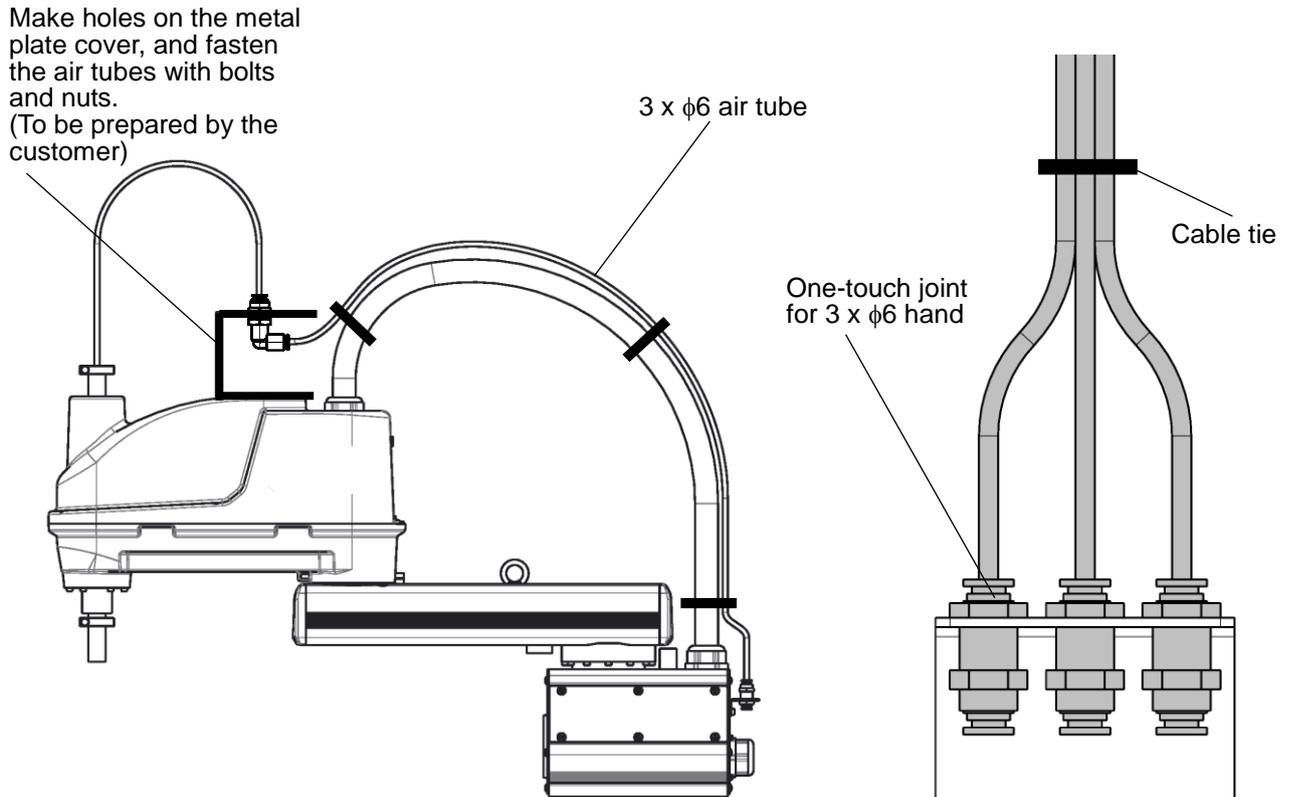

Fig. 10.2 Tool air piping installation example (KHL-500, KHL-600 and KHL-700)
Fig. 10.2 shows an installation example of tool air piping for your reference.
- Fig. 10.2 is a reference example. Tool air piping is not guaranteed. The warranty does not cover breakdowns of the harness, the air tubes or their accessories due to piping by the customer.